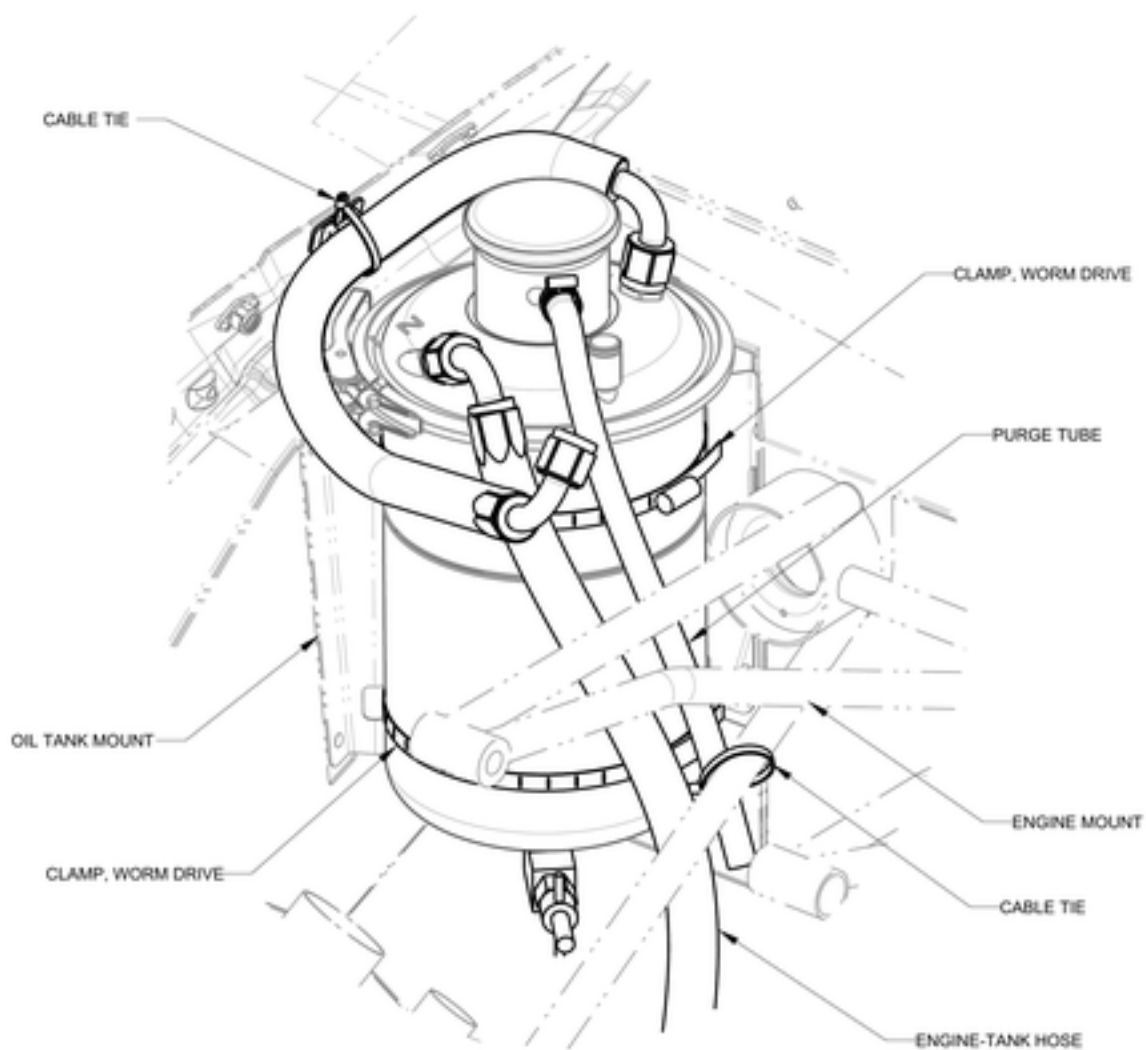

FIGURE 17-43
6. Cut the cable tie securing the reservoir-thermostat hose shown in Figure 17-43.